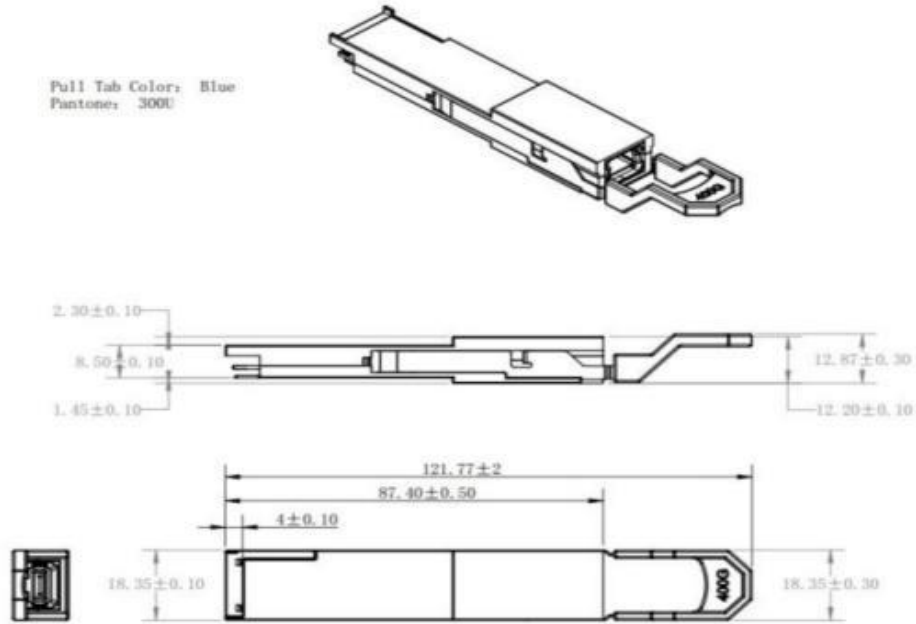

Figure 3. Mechanical dimensions
2. VCC Rx, VCC 1 and VCC Tx are the receiver and transmitter power supplies and shall be applied concurrently. Requirements, defined for the host side of the Host Edge Card Connector, are listed in Table 3 .Optical Characteristics. Recommended host board power supply filtering is shown in Figure 3. VCC Rx, VCC 1 and VCC Tx may be internally connected within the QSFP 112 module in any combination . The connector pins are each rated for a maximum current of 1.5A (max. current of 2.0 A is required for high module power of 15-20W).